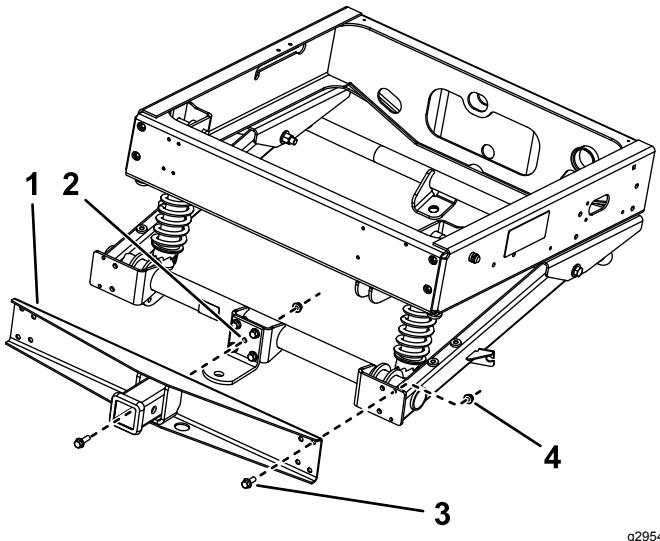

Figure 2
2. Attach the receiver hitch to the rear swing arm with 5 flange-head bolts and flange nuts (Figure 2).